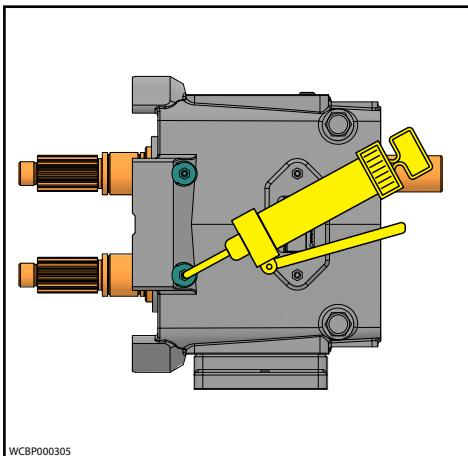

Figure 87 - Install Bearing Retainer
17. Lubricate the seal lips (14) and install the grease seals (14) in the bearing retainers (32) (compression spring on inside).
18. Coat the retainer flanges with silicone sealant (Figure 87, item A). (Gore-Tex® sealing tape can be used on silicone free models.) The grease seal (item 14) will be flush with the front of the bearing retainer. On 030 models, the grease seal will be against the step on the inside diameter of the retainer.
19. Install the bearing retainers (Figure 87, item 32).